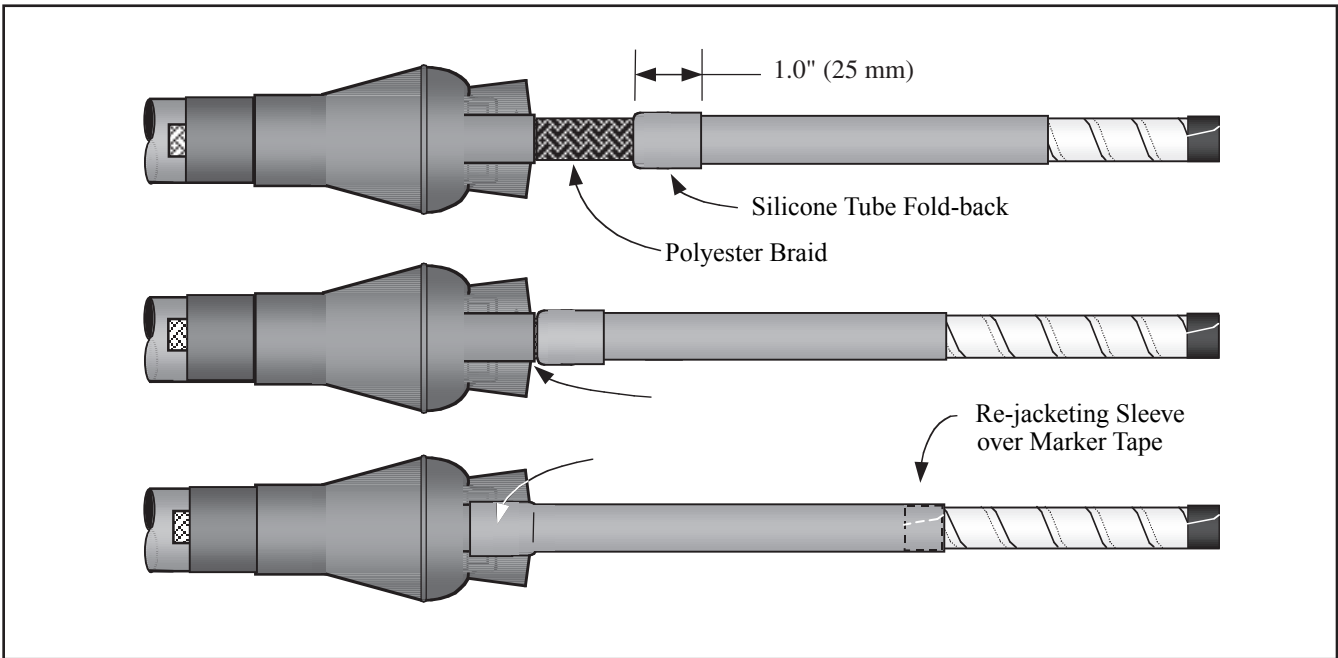

Figure 17
5.6 Slide re-jacketing sleeve until inner polyester braid is adjacent to breakout boot finger (Figure 17).
5.7 Fold outer silicone tubing back on itself for 1.0" (25 mm) (Figure 17) and trim off exposed polyester braid.
5.8 Slide re-jacketing sleeve assembly down until folded tube contacts edge of breakout boot finger (Figure 17).
5.9 Pull folded silicone tube section down onto breakout boot finger (Figure 17).
Note: Re-jacketing tube end should align with upper edge of installed marker tape (Figure 17). Minor tube adjustments can be made as needed.